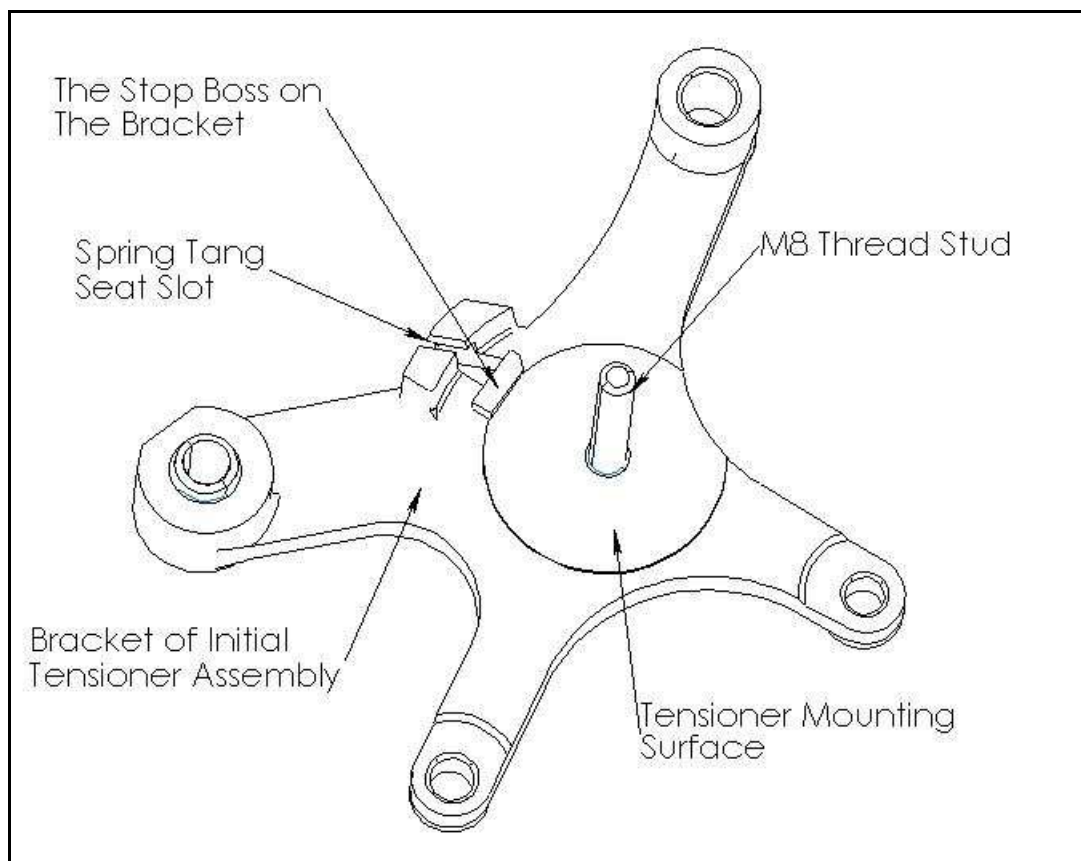

Figure 4. The Bracket of Initial Tensioner Assembly
5. Install new TBT (see Fig. 3) on the engine ensuring that the tensioner's *Spring Tang* is seated into the slot in the aluminum bracket, which is still mounted on the engine block. See Figure 4 and 5.